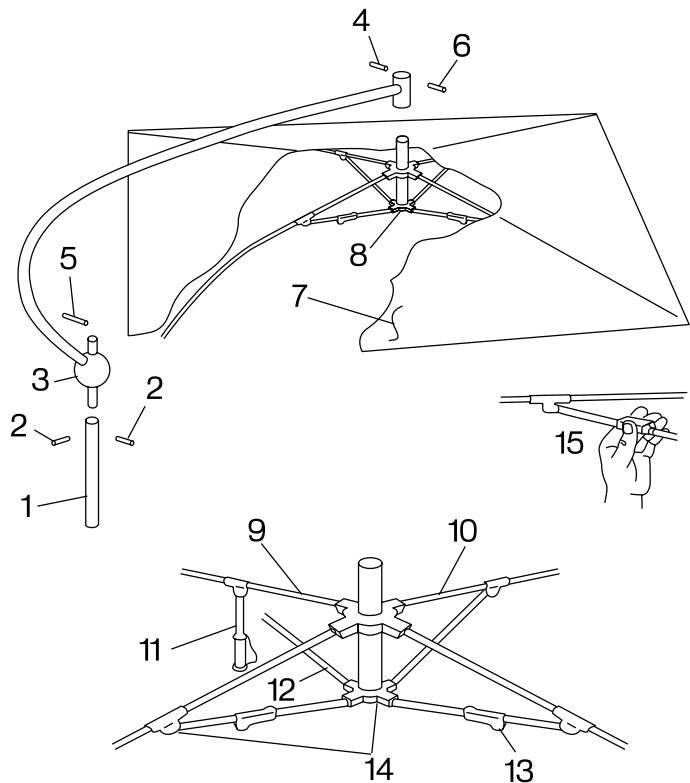

Figure 4-61. Umbrella Assembly
2. Insert ball stud (**Figure 4-61,3**) on curved shaft into umbrella support shaft (**Figure 4-61,1**), align holes, and drive 3/16" X 1" (**Figure 4-61,2**) spiral spring pins into position. Install locking handle (**Figure 4-61,5**).
3. Place canvas cover (**Figure 4-61,7**) over umbrella
frame assembly (**Figure 4-61,8**) and hook corners to bows - tie each bow securely with tie straps.
4. Insert umbrella frame assembly (**Figure 4-61,8**) with canvas in place into tube on curved shaft (**Figure 4-61,3**) and insert bolt (**Figure 4-61,6**). Tighten snugly with nut (**Figure 4-61,4**).
5. Install complete umbrella into clamp on umbrella mounting bracket. Each bow may be raised individually until locked into open position (**Figure 4-61,15**). Each bow has two positions in which it can be locked open. This is to allow for arc stretch in canvas.